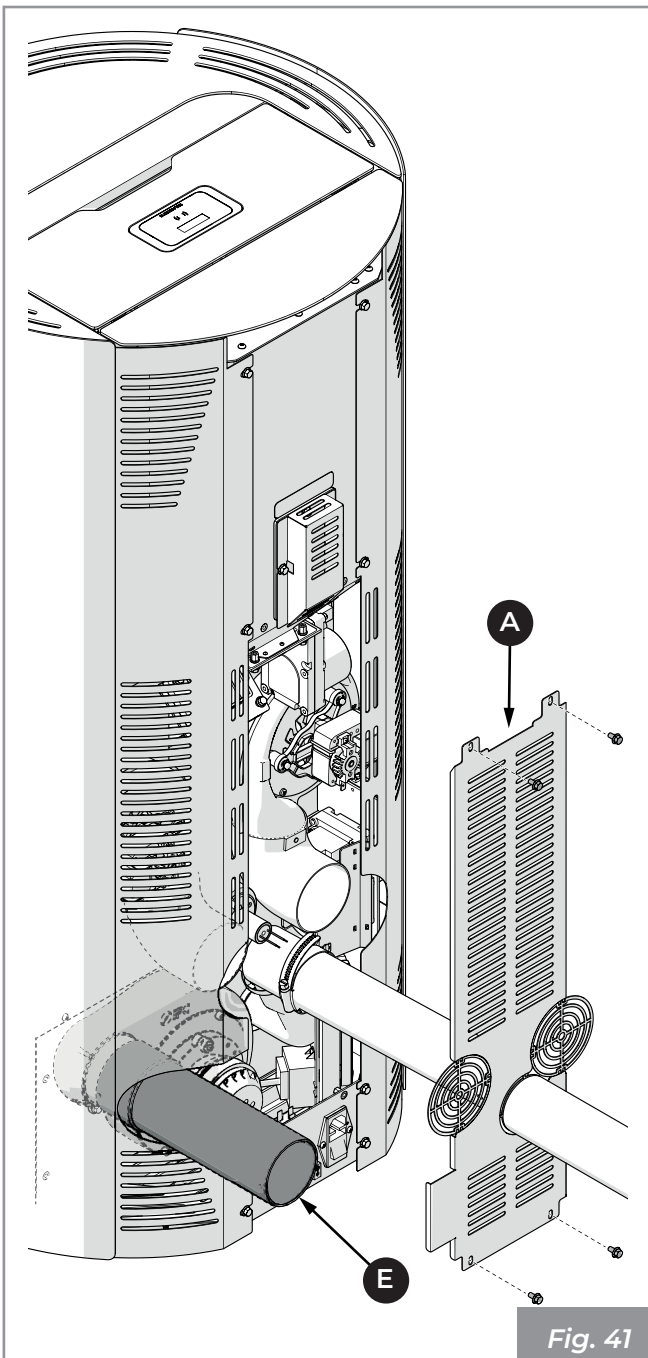

Fig. 41
- Connect the flue gas pipe **(E)** (**Fig. 41**).